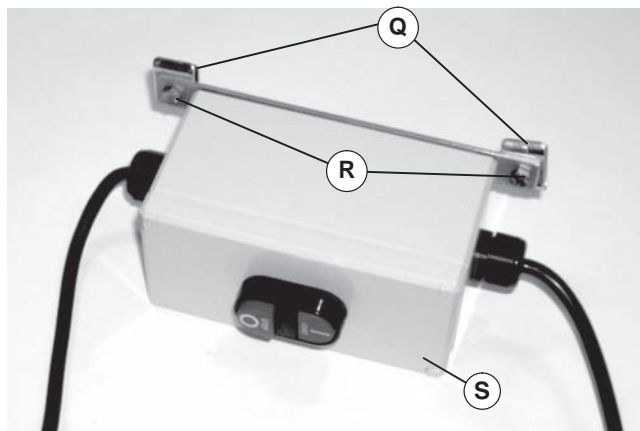

Figure 16
- Attach two accessory mounting clips (Figure 16, item Q) to motor starter (S) with two M6 x 20mm hex head cap screws (R). Do not tighten screws.